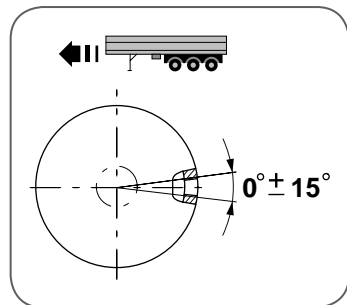

Fig. 8 - Preparing the axle tube with hole for the connecting bracket
1. Prepare the hole for the connecting bracket in the centre between the rims, in the direction of travel behind the axle tube, in accordance with see ► *Fig. 8* .